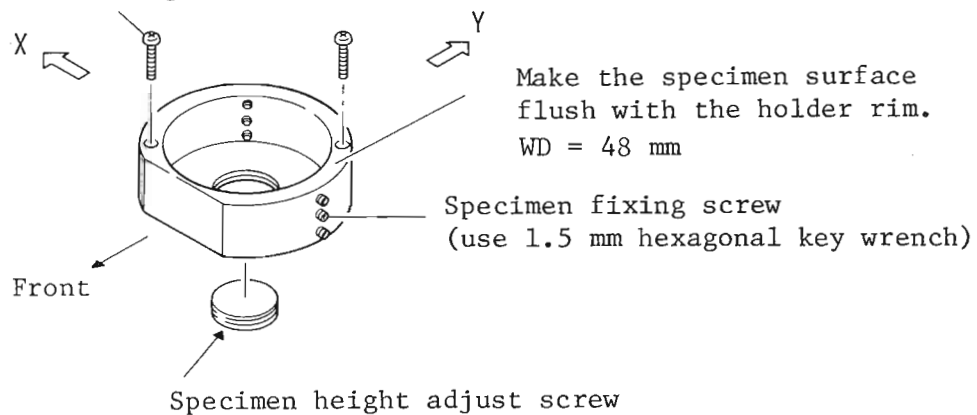

Fig. 3.4 Large specimen stage
4. Insert the specimen in the holder, adjust the specimen height adjust screw so as to make the specimen flush with the holder rim, and secure the specimen with the specimen fixing screws (Figs. 3.4 and 3.5).